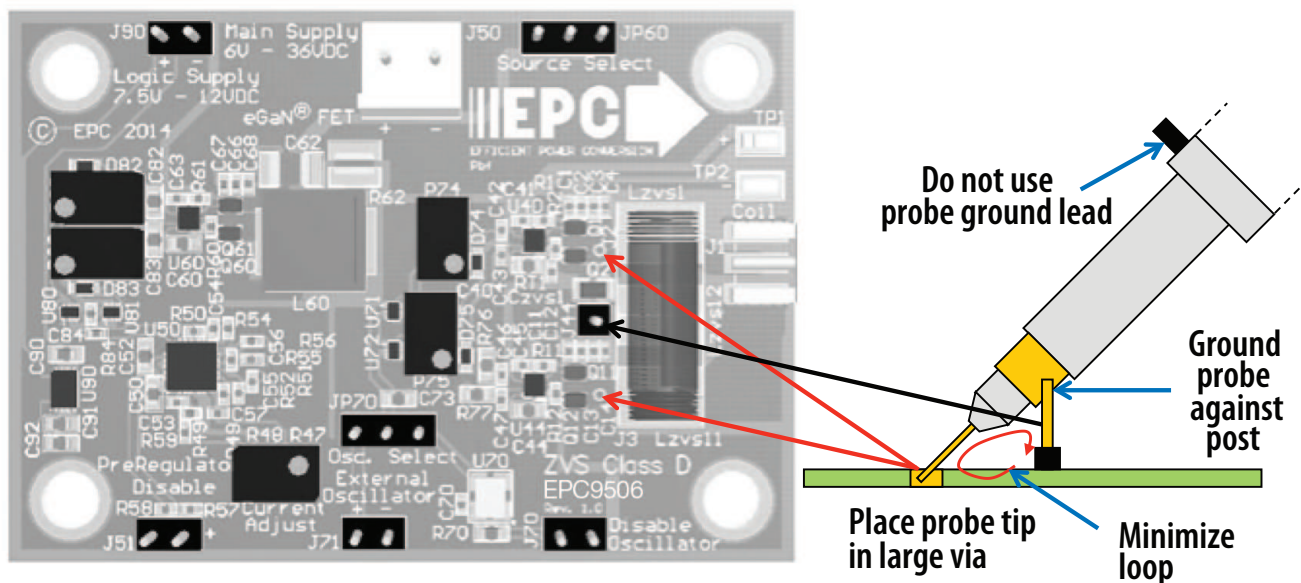

Figure 3: Proper Measurement of the Switch Nodes Using the Hole and Ground Post
3. Connect a LOW capacitance oscilloscope probe to the probe-hole J2 between the two eGaN FETs Q10_x and Q11_A and lean against the ground post as shown in Figure 3.
NOTE. When measuring the high frequency content switch-node (Source Coil Voltage), care must be taken to avoid long ground leads. An oscilloscope probe connection (preferred method) has been built into the board to simplify the measurement of the Source Coil Voltage (J2 and J3 as shown in Figure 3).